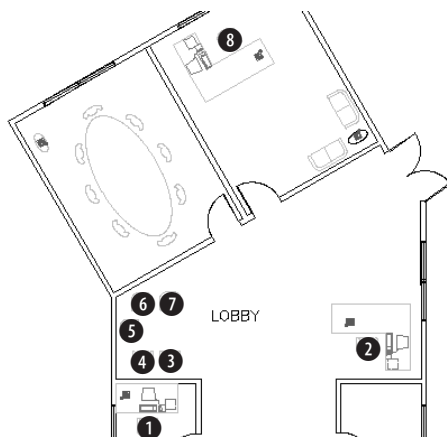

Figure 18-29: The office building plan includes several blocks of armchairs with invisible attributes.
1. Open `ab18-i.dwg` from the CD-ROM. This is the same office building plan you used earlier in this chapter, shown in Figure 18-29.